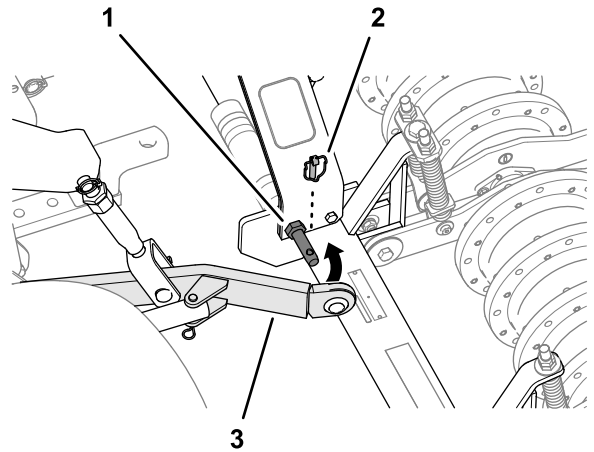

**Figure 16**
3. If removed, install the upper 3-point link (Figure 16) to the traction unit.